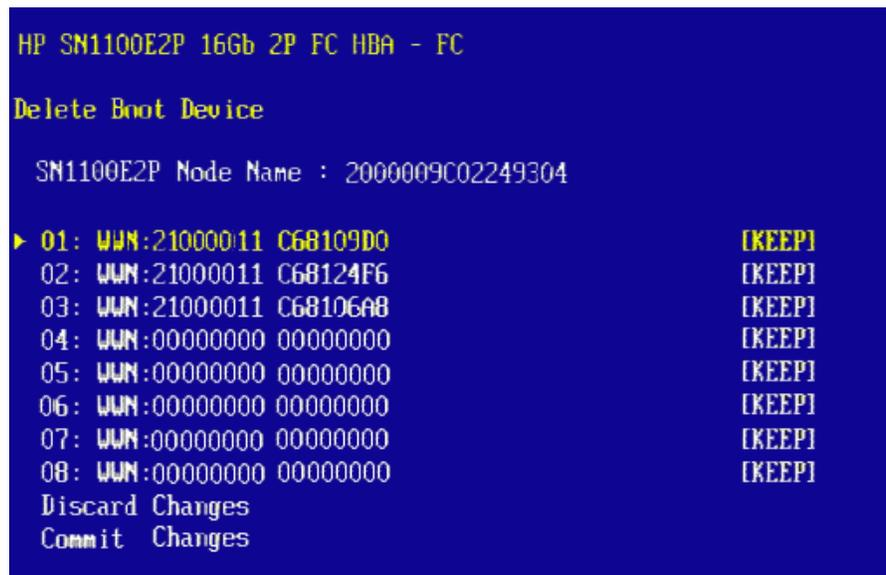

Figure 6-10 Boot Device Screen
2. From the Main menu (Figure 6-3 on page 52), select **Delete Boot Device** and press **<Enter>**. A list of boot devices is displayed (Figure 6-10 on page 56).